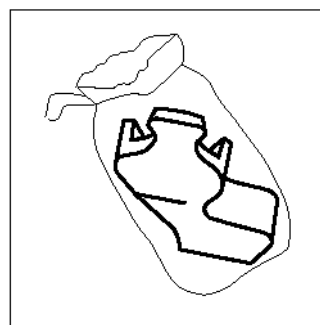

Figure 23: Removing the new container from the bag
- 8** Remove the new Developer Ink Waste Container from the box and bag, as illustrated in Figure 23.